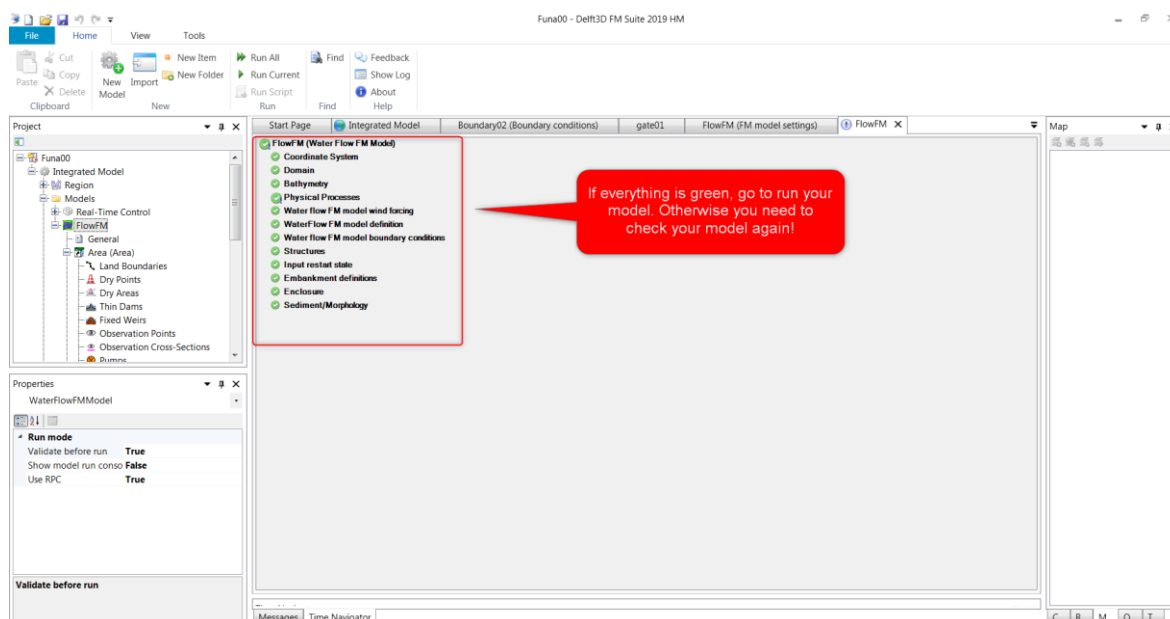

Figure 2.25 Check validation results
- New window will pop up as shown in Figure 2.25. If model is ok then all the validation results will be with green icons. Otherwise, you may need to check the model based on the error that would be shown in the validation screen.